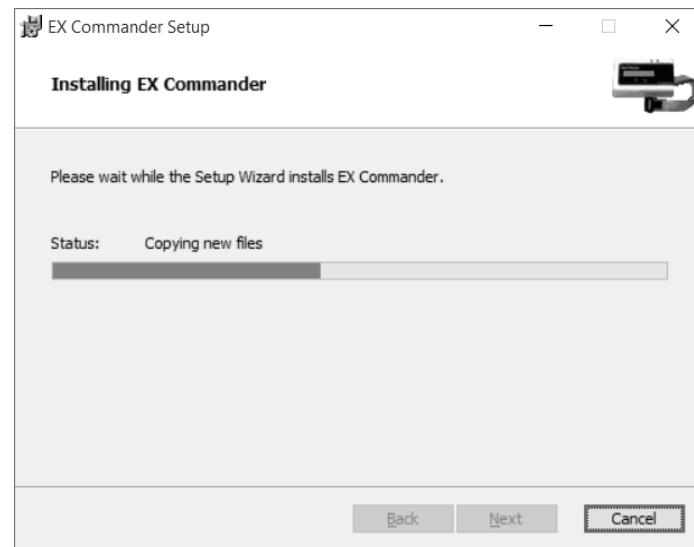

Figure 1.1.13 During installing of EX Commander
6. The dialog shown in Figure 1.1.13 appears. Wait while EX Commander installs.